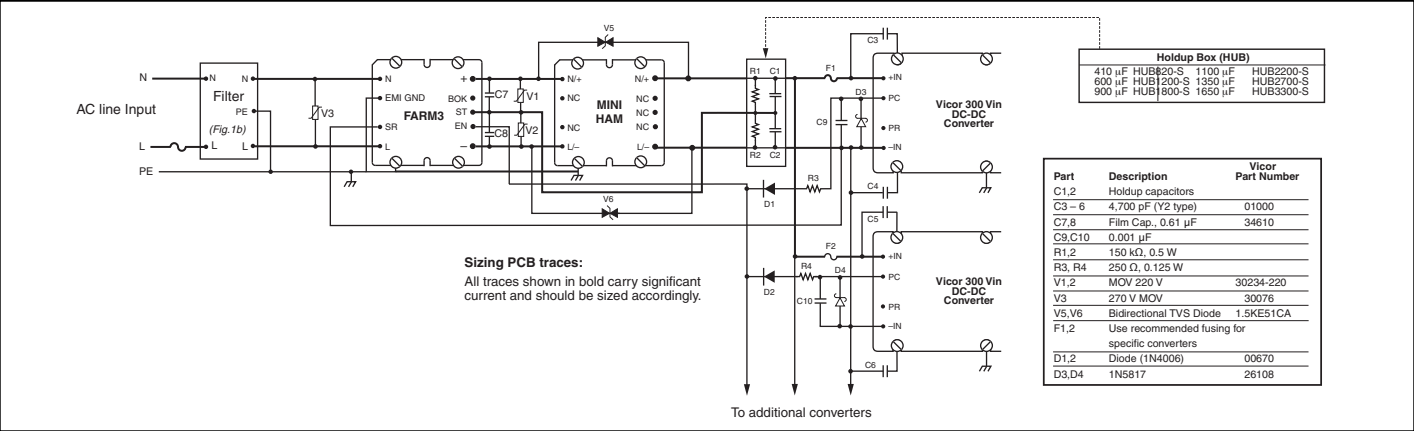

Figure 1a — Offline Power Supply Configuration
Electrical characteristics apply over the full operating range of input voltage, output power and baseplate temperature, unless otherwise specified. All temperatures refer to the operating temperature at the center of the baseplate. Performance specifications are based on the ENMod system as shown in *Figure 1a*.
■ ELECTROMAGNETIC COMPATIBILITY (configured as illustrated in Figures 1a and 1b)
The ENMod system provides transient/surge immunity, harmonic current attenuation and EMI filtering, in addition to all of the power switching and control circuitry necessary for autoranging rectification, inrush current limiting, and overvoltage protection. Converter enable and status functions for orderly power up/down control or sequencing are also provided. To complete the AC front-end configuration, the user only needs to add hold-up capacitors, a simple EMI filter, and a few discrete components (*see Fig. 1a*).
(see Figures 1a, 18a and 18b)
(see Figures 1a, 18a, and 18b)
It should be noted that the series combination ($C1$, $C2$, see *Figure 1a*) requires each capacitor to be twice the calculated value, but the required voltage rating of each capacitor is reduced to 200 V.